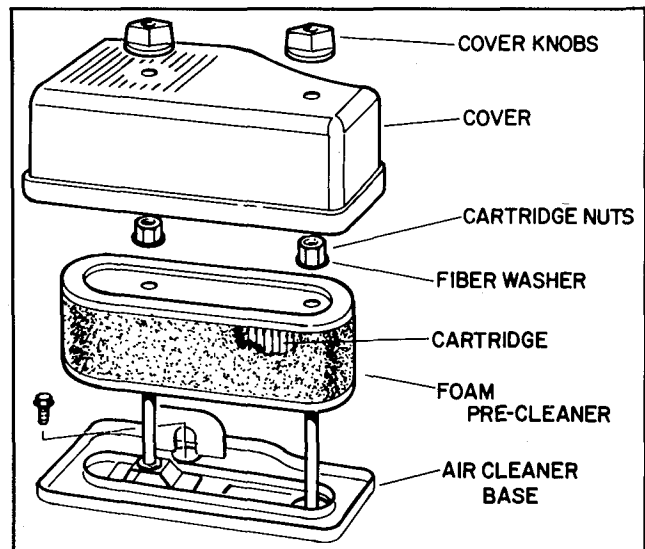

Figure 15
1. Remove (2) knobs securing air cleaner cover in place and remove cover (Fig. 15).